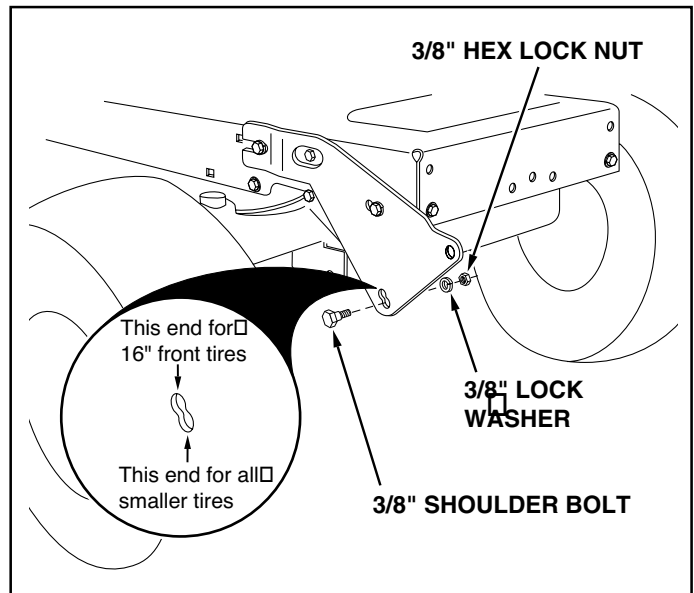

FIGURE 6 **RIGHT SIDE VIEW**
- Assemble a shoulder bolt, a 3/8" lock washer and a 3/8" hex lock nut to the bottom hole in each side plate. See figure 6.